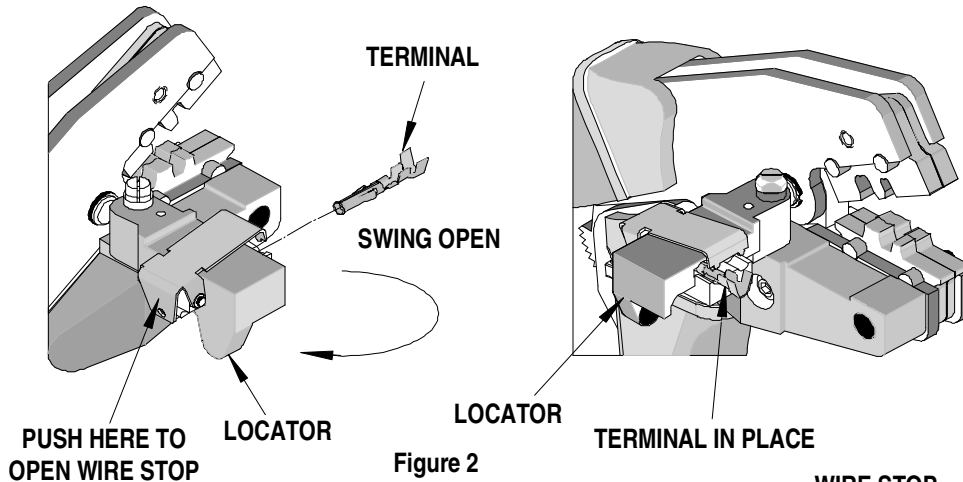

Figure 2
2. Swing the terminal locator away from the crimp tool shown in Figure 2. Some terminals with large insulation grips may interfere with the crimp tooling when swinging the locator into position. The terminal must then be loaded into the locator in the closed/crimp position.
3. When using the locator, press down on the wire stop on the locator as shown in Figure 2. Insert the proper terminal into the proper nest opening. Make sure when choosing the nest opening, it will correspond with the A or B profile on the hand tool.